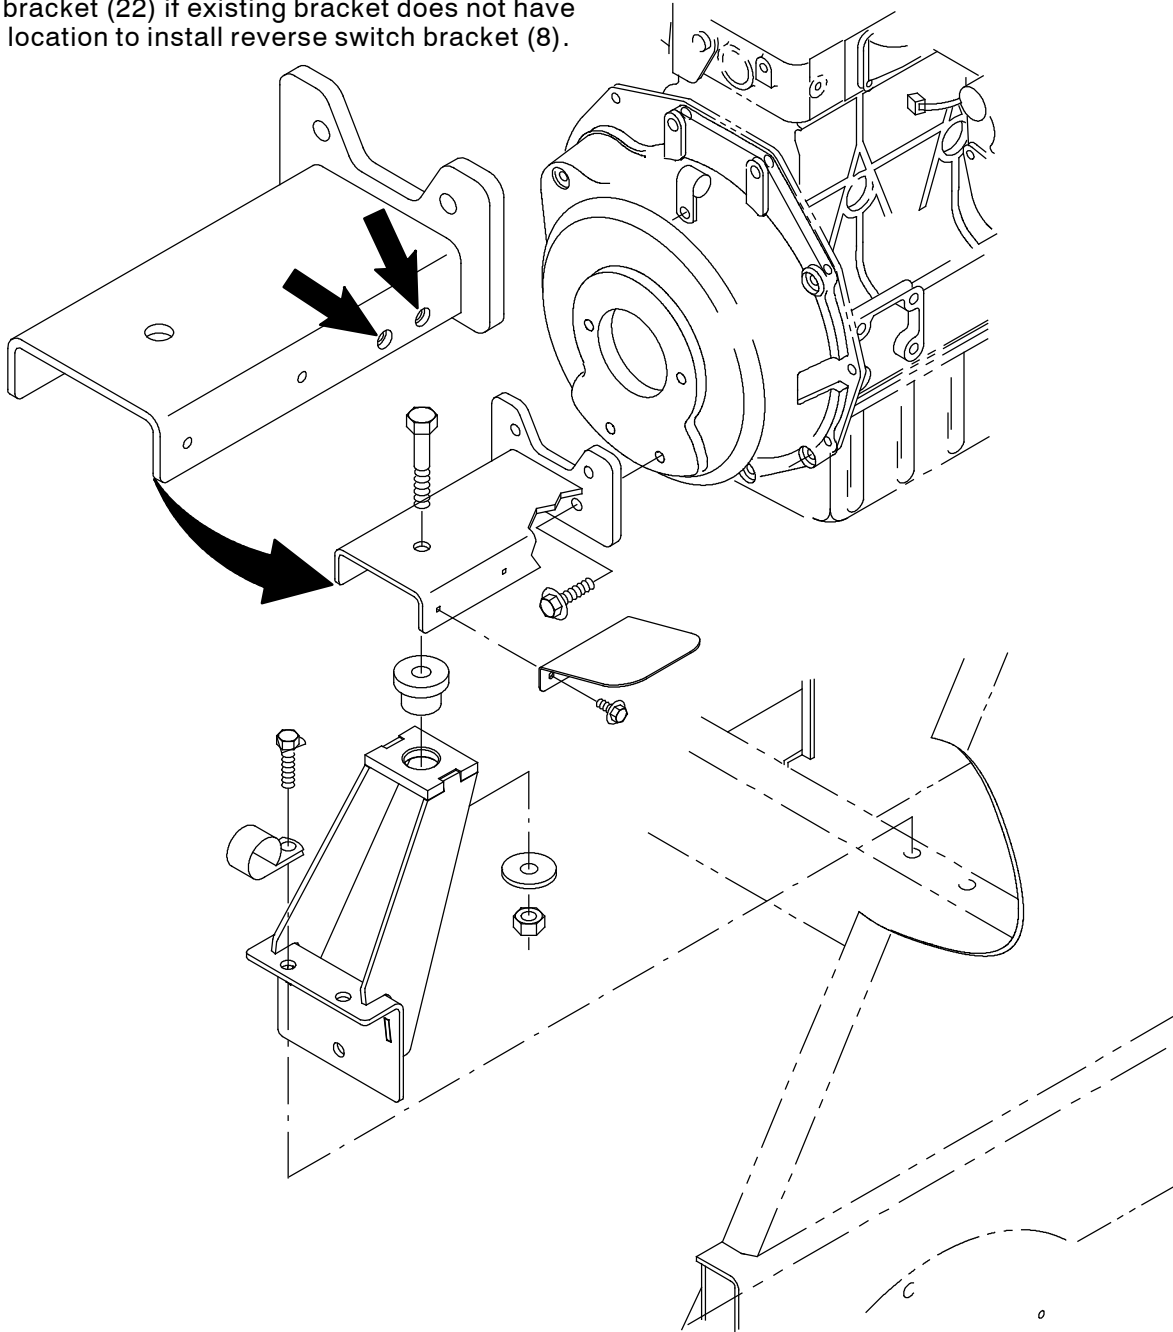

FIG. 1
3. Check the rear engine mounting bracket. If rear engine mounting bracket has a location for installing the reverse switch bracket (8) proceed to the next step. If rear engine mounting bracket does not have location for installing reverse switch bracket replace the rear engine mounting bracket with new rear engine mounting bracket (22). (Fig. 1)